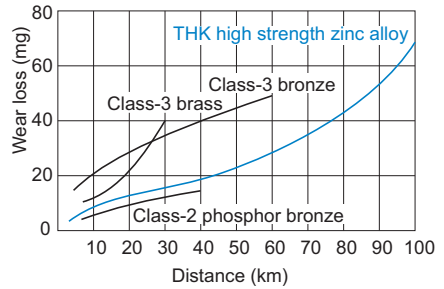

Fig.1 Wear Resistance of the High Strength Zinc Alloy
With a sliding bearing, a pV value, which is the product of the contact surface pressure (p) and the sliding speed (V), is used as a measuring stick to judge whether the assumed model can be used. Use the corresponding pV value indicated in Fig.1 as a guide for selecting a spline nut. The pV value also varies according to the lubrication conditions.
Fig.1 pV Value
From the diagram of pV values (see Fig.1 on **B 14-5**), it is judged that there will be no abnormal wear if the sliding speed (V) is 13.5 m/min or below against the "p" value of 1.73 N/mm². Therefore, it is appropriate to select model DPM3560.